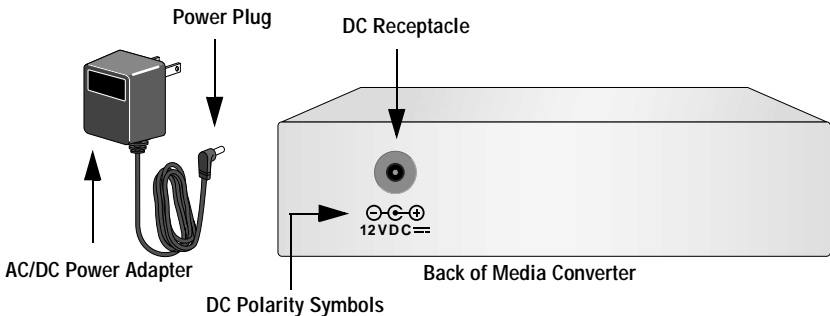

Figure 6 12 V DC Connector on Rear Panel
- ❑ If both end-nodes will use auto-negotiation to determine the duplex mode, or if both are pre-set to operate with the same duplex mode, such as half-duplex, set the switch to the A/N ON (IN) position. This is the default setting.
7. Plug the AC/DC power adapter into an appropriate AC power outlet and insert the power plug into the DC receptacle located on the back of the unit. Refer to Figure 6. **This step does not apply if you installed the unit in an AT-MCR12 chassis.**